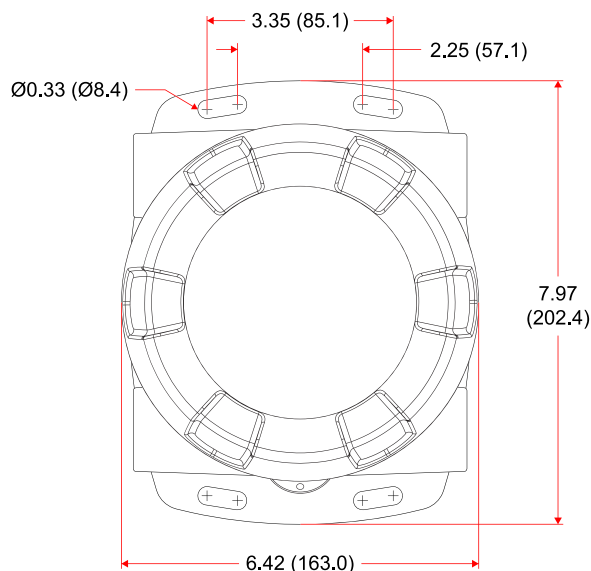
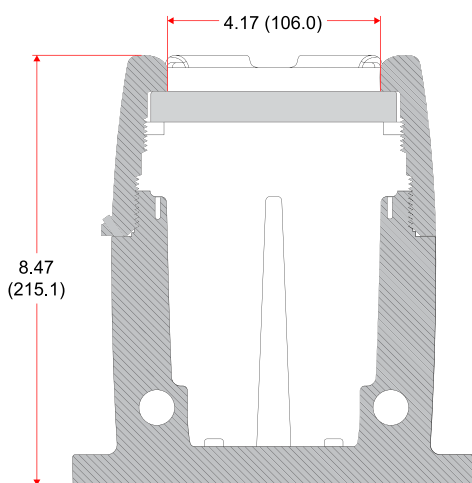

Figure 1. Enclosure Dimensions – Front View
Figure 2. Enclosure Dimensions – Side Cross Section View
The ProtEX-MAX has two slotted mounting flanges that may be used for pipe mounting or wall mounting. Refer to *Figure 1* and *Figure 2* below.
- Prepare a section of wall approximately 7.0" x 8.5" (178 mm x 216 mm) for totalizer mounting by marking with a pencil the mounting holes (shown in *Figure 1*) on the wall.
- Select the appropriate mounting screws for the mounting surface to be used. The mounting holes diameter is shown on *Figure 1*.